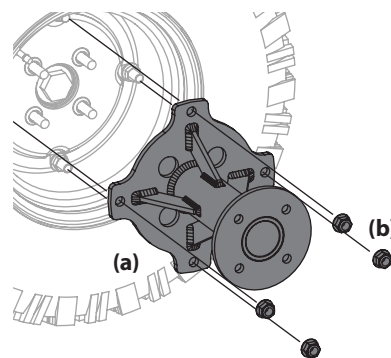

Figure 46
2. If necessary, remove the dual wheel adapter (a) by removing the four flange lock nuts (b). See Figure 46.